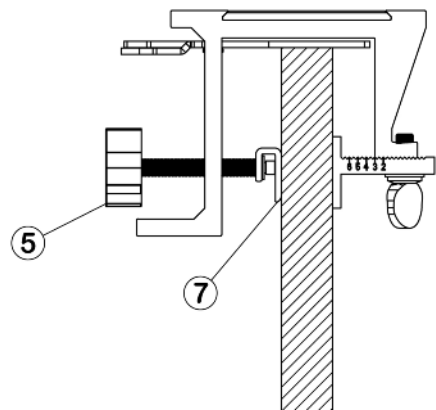

Fig. 14
2. After you fully deploy the *Positioning Bars*, you're ready to place the stock in the jig. Insert the stock gently up against the deployed *Positioning Bars* (Fig. 14) and tighten the *Thumb Screws* [5] just enough so the stock is held loosely by the *Face Clamps* [7].